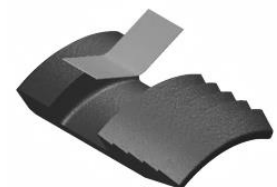

Fig. 3
**NOTE:** Install one (1ea) spring per slip (Fig. 3).